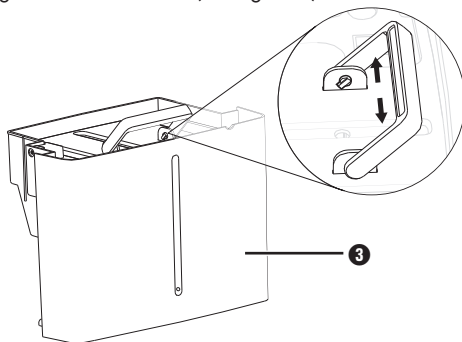

Fig. 5
- Do not clean the water tank ③ in the dishwasher. Otherwise, it will be damaged.
- ◆ Remove the water tank ③, pour the water away and dry it well inside and outside before replacing it in the appliance.
- ◆ To clean the inside of the water tank ③, remove the cover. To do this, tilt the handle forward until the pins on the handle are aligned with the grooves on the water tank ③. You can now remove the grip by pushing it out of the groove on both sides (see figure 5).